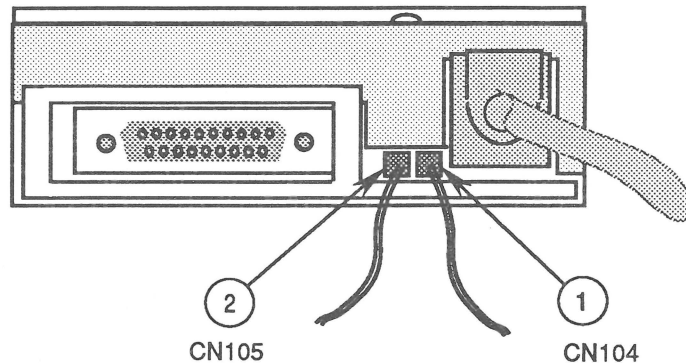

FIGURE 4
- LED cable from drive assembly connector CN104 (Figure 4, #1)
- Eject button cable from drive assembly connector CN105 (Figure 4, #2)
1. With the case assembly right side up on a padded surface as shown in Figure 4, reconnect the following cable connectors:
- Eject button cable to drive assembly connector CN105 (Figure 4, #2)
- LED cable to drive assembly connector CN104 (Figure 4, #1)